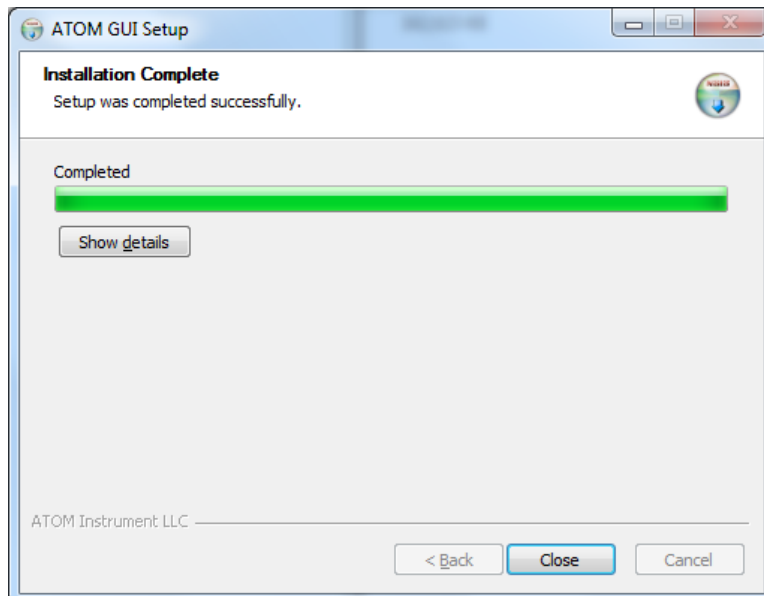

Figure 3.13
- Once the installation is complete (~ 1 - 2 mins), click **Close** (Figure 3.13)